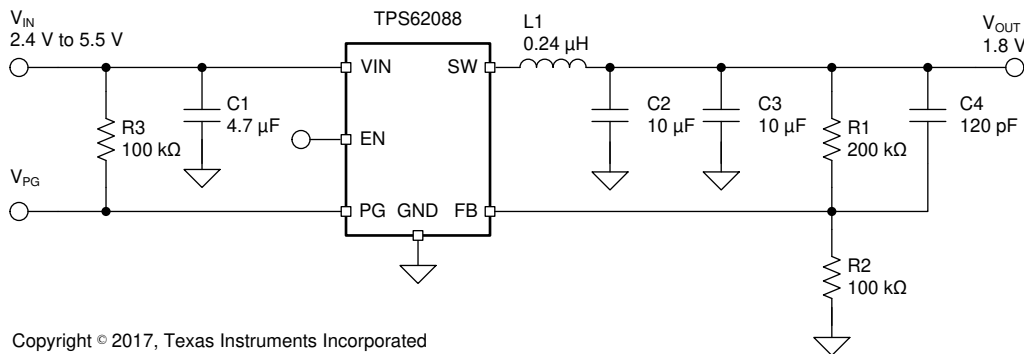

Figure 5. Typical Application of Adjustable Output
**Table 3. List of Components of Figure 5**